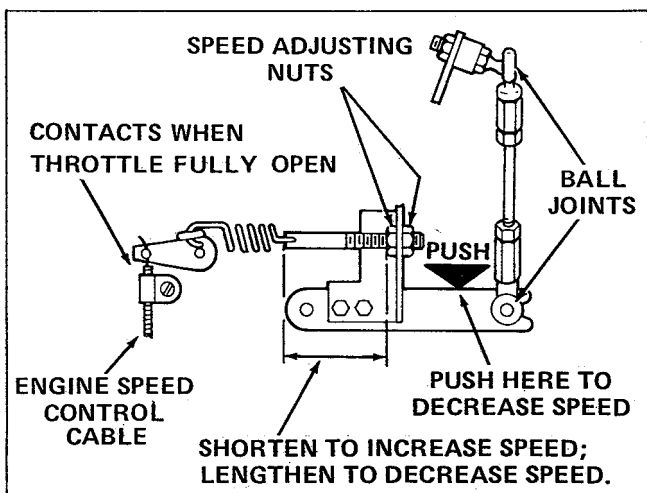

Figure 34. Governor Adjustment
2. Push in governor as shown in figure 34 to slow engine to 400 to 500 rpm. Then release governor. Engine should accelerate smoothly. If not, open main needle valve (item C, figure 33) about 1/4 turn. Repeat check and adjustment until engine speed increases smoothly and without hesitation.
A tachometer is required to adjust the governor (figure 34). Connect and use the tachometer as directed in the manufacturer's instructions. Adjust as follows:
3. Set ENGINE speed control to FAST. Tachometer should show engine speed of 3800 to 3850 rpm. If not, adjust governor speed adjusting nuts as shown in figure 34.
5. When the throttle control is in the fully open position, throttle arm should be in contact with the bracket for the engine speed control cable as shown in figure 34.